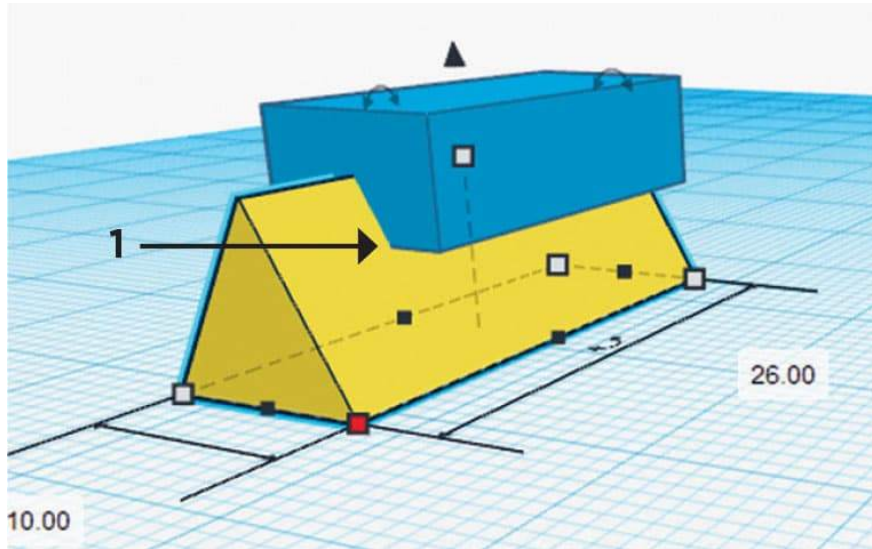

FIG. 3: Create a slightly narrower tail that will slide into the socket.
5. Use the **Roof** tool to create a second roof that is 2 mm narrower than the roof we used for the socket section in step 2 above. The height should be 1 mm shorter (fig. 3).
6. Merge the second roof with the box/cylinder from step 4. It should have less than half the roof embedded in the box/cylinder so it can slide into the socket section. The arrow 1 in fig. 3 shows that less than half of the roof is embedded in the box of the tail section.